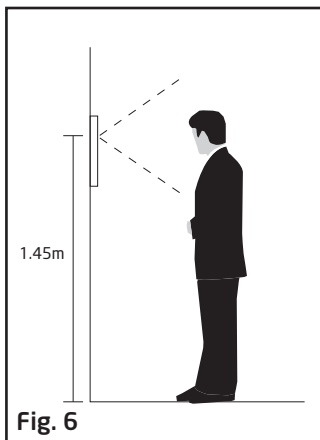

Fig. 6
- Fit mounting plate to the selected location, recommended mounting height 1.45m see Fig. 6.